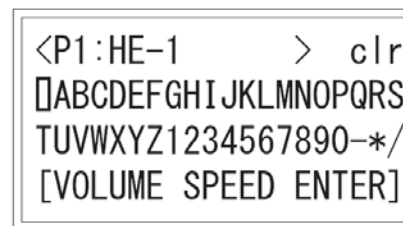

Figure 3-J: Program Name Setting
3. The program name setting screen appears (Figure 3-J).